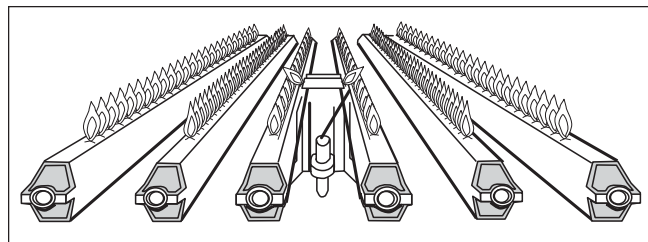

Figure 21. Main Burner Flame Pattern.
2. If a strainer is employed in a pressure reducing valve or in piping, clean it every six (6) months.
3. At start-up and every six (6) months thereafter, the pilot and main burner flame should be observed for proper performance (see Figure 21). See attached lighting and shut-down instructions for proper pilot flame pattern). If flame has the